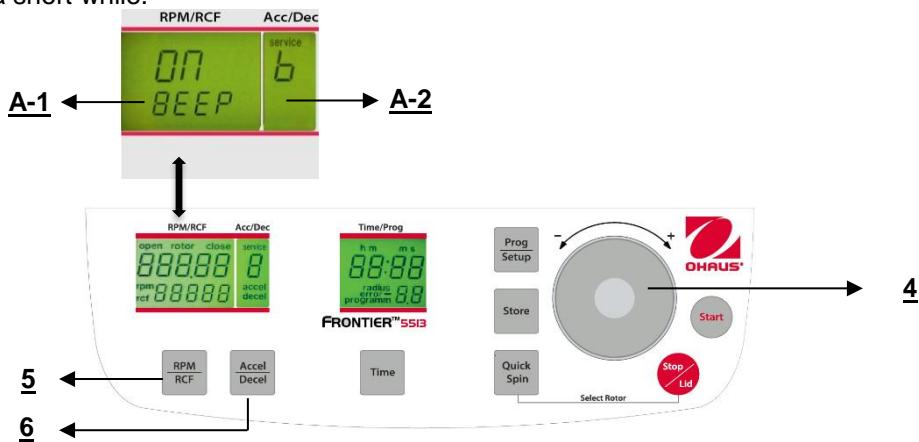

Figure. 33
Proceed as described under point 4.1.2 to enter this program mode and then press the key "Accel/Decel" (6). In the display "Acc/Dec" (A-2) the word "Service" flashes. Now select the letter "B". with the adjusting dial (4). As a result, in the display "RPM/RCF" (A-1), the word "ON/BEEP" appears. After pressing the key "RPM/RCF" (5), you can turn the keyboard sound (On) or (Off) with the adjusting dial (4). (See figure 33).